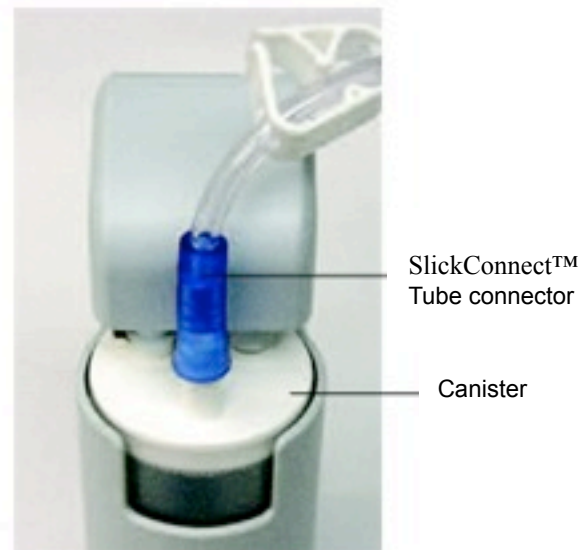
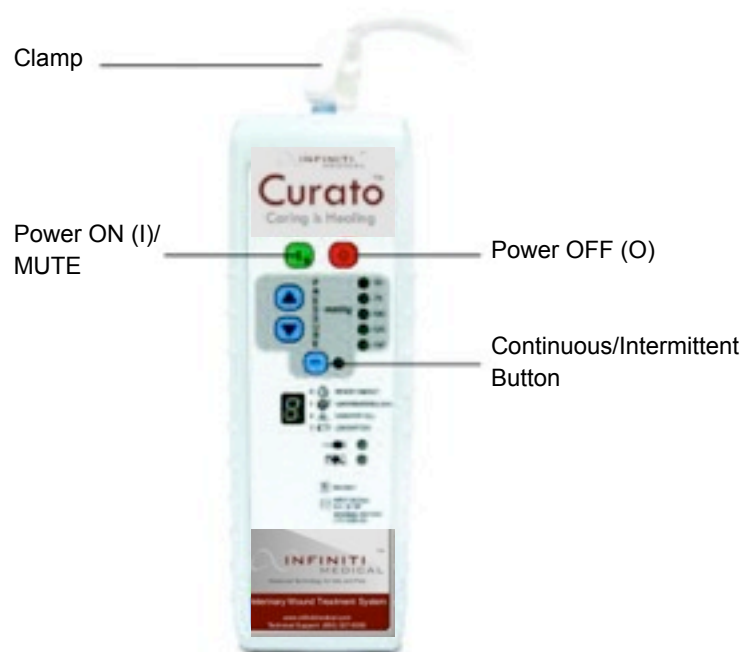

Figure 4
Figure 5
3. Connect the distal end of the SlickConnect™ Tube with the blue tapered connector to the patient port of the Canister (see **Figure 4**). Gently twist and push the connector on just enough to secure and seal it. Also, make sure that the clamp on the SlickConnect™ Tube is open (see **Figure 5**).
4. Plug the device's A.C. Adapter into a suitable 100-240 VAC, 50-60Hz, outlet. Insert the power plug into the Power Jack on the side of the device (refer to **Figure 5**). The Curato™ Device should only be used with the supplied A.C. Adapter. Use of an incorrectly rated adapter could create a shock hazard for the patient and caregiver.